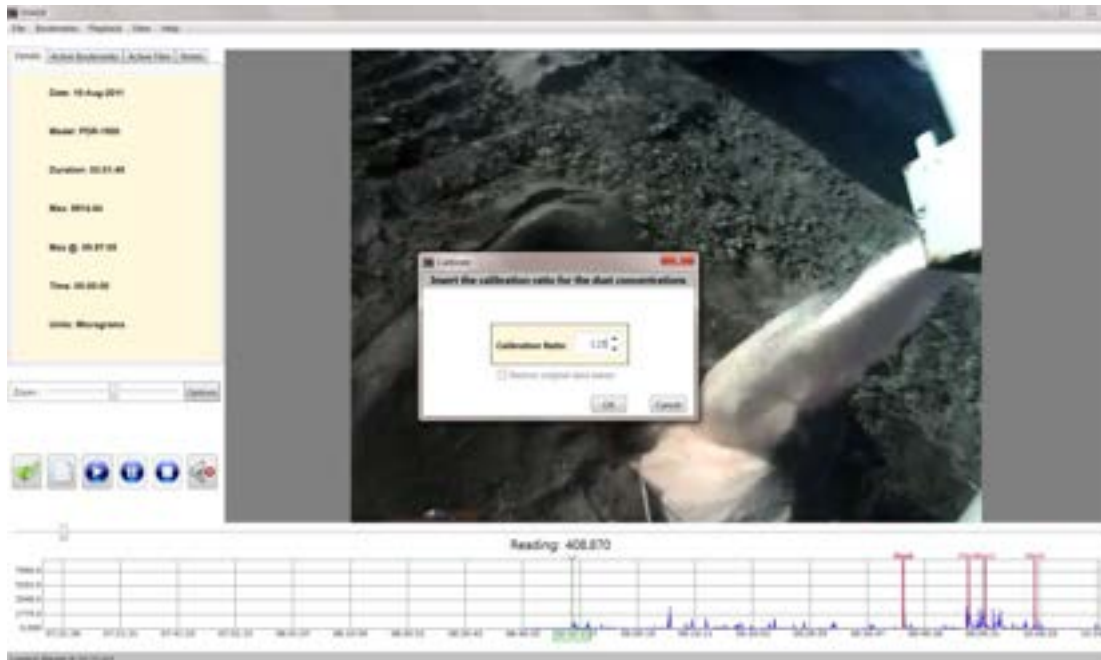

Figure 48. The Calibrate dialog box for entering the calibration ratio.
1. Click on **Calibrate** in the View menu or type the keystrokes **Ctrl** and **L**. The Calibrate dialog box will open as shown in Figure 48.
3. After entering the calibration ratio, click the **OK** button to activate the calibration. This action will multiply all the real-time dust concentrations by the calibration ratio. For example in Figure 48, the ratio entered is 1.15. Therefore, all the real-time dust concentrations will be multiplied by the ratio 1.15. The calibration will be reflected in the number field to the right of the Reading label above the graph and on the y-axis of the dust concentration graph.